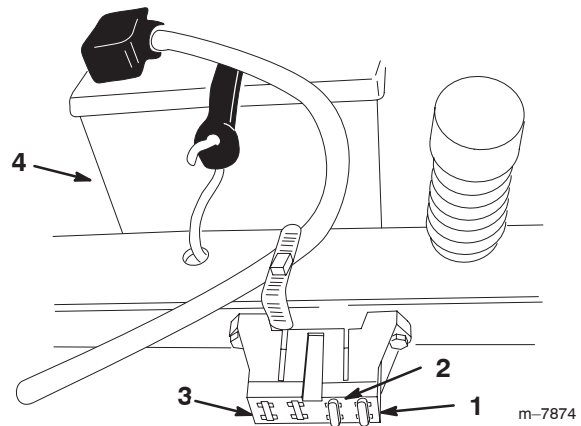

Figure 45
1. Raise the seat to gain access to the fuse holder (Fig. 45).
2. To replace a fuse, pull out on the fuse to remove it (Fig. 45).